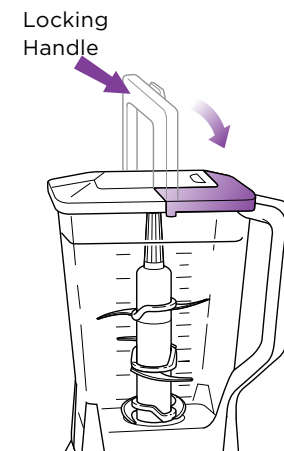

Fig. 4
- 3 Place the lid onto the pitcher with the locking handle in the upright position and the pouring spout on the corner opposite the pitcher handle. Align the arrows (▼) located on the lid and pitcher handle. Press the lid down into the pitcher. Press the locking handle down so that the latches on the lid fit under the tabs on the pitcher. (Fig. 4)